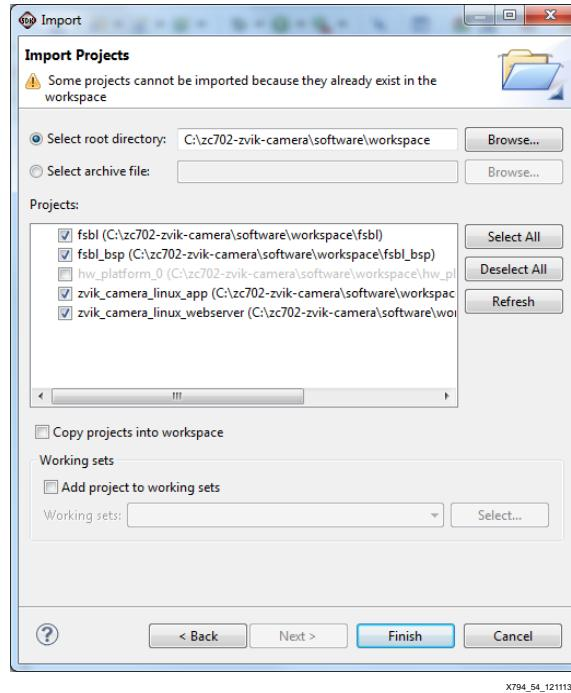

Figure 54: Importing Linux Applications
4. After the root directory is specified, the import wizard shows a list of projects available to import, as shown in Figure 54. Make these selections:
Note: The projects in the import wizard might appear in a different order than that shown in Figure 54.